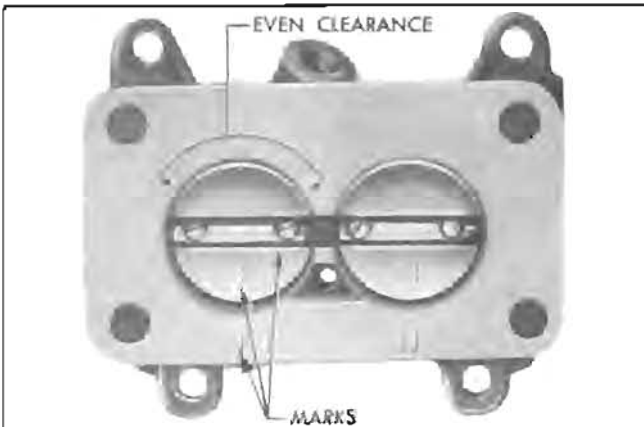

Figure 3-69—Correct Position of Throttle Valves
3. Reinstall each throttle valve in the same barrel of throttle body from which it was removed, as shown by identification marks made before removal. The dash mark (-) stamped in valve must be toward top of body. Loosely install *new* valve screws and carefully align the valves with the scribe marks previously made along edges of valve stem, then tighten screws. See figure 3-69.
4. With valves held in closed position, hold throttle body to the light and check for even clearance between each valve and the barrel. See figure 3-69. If clearance is excessive at any point, shift valve in stem until it fits the barrel with the least amount of light showing around the edge, then tighten screws firmly and recheck clearance.